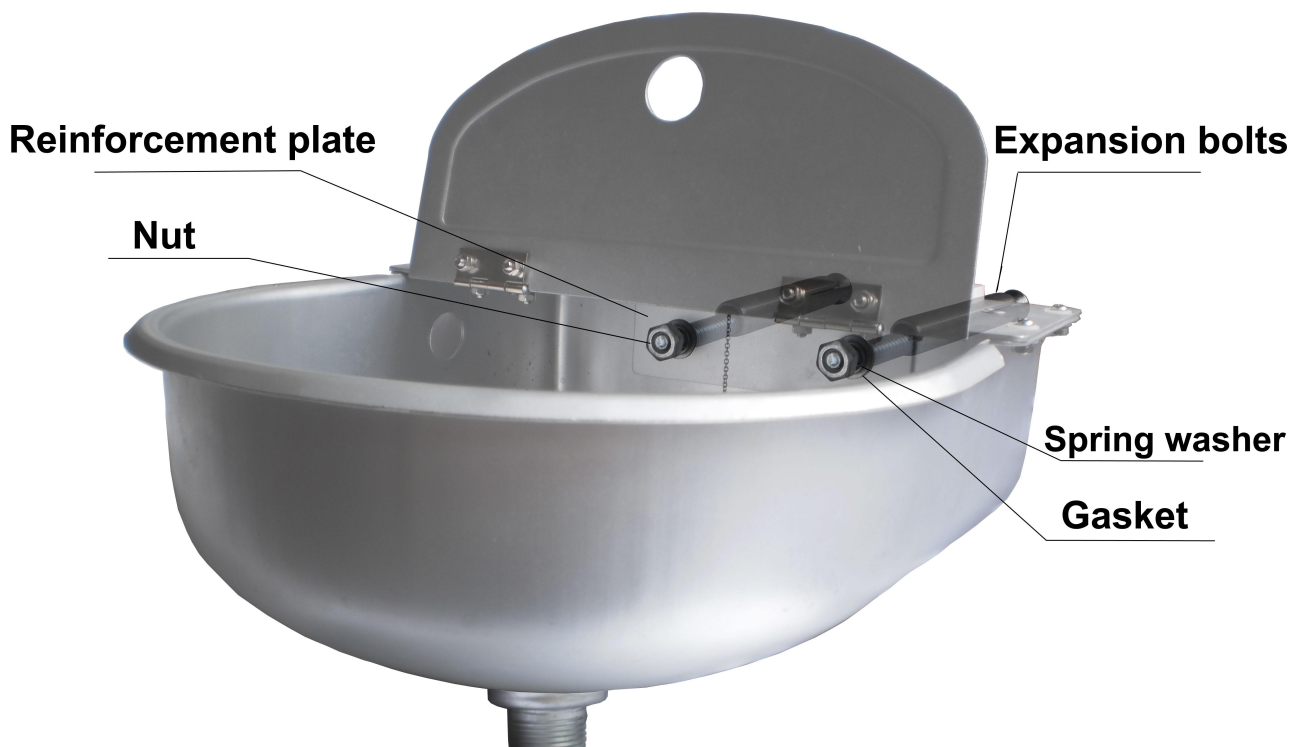

Fig 3
2. Screw the two M10 expansion bolts to the holes, set the threaded part out from the hole, hung the waterer first, then put up the reinforcement plate , finally add spring washers and gaskets, use the nut to tighten. Fig 3.